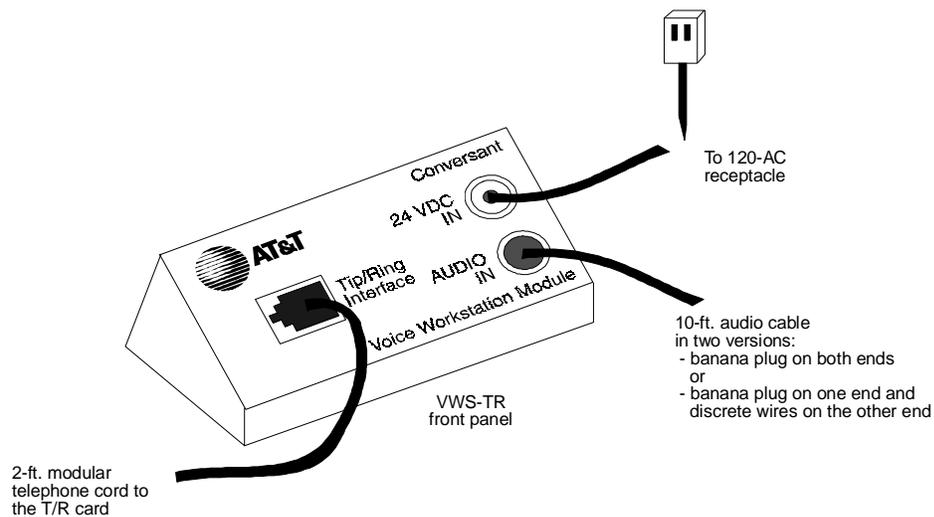

Figure 10-14. Voice Workstation System, Tip/Ring Interface Module
- Audio Jack Kit (see Figure 10-14); this includes:
3. Plug the other end of the audio cable into the AUDIO IN connector of the VWS-TR interface module (Figure 10-14).